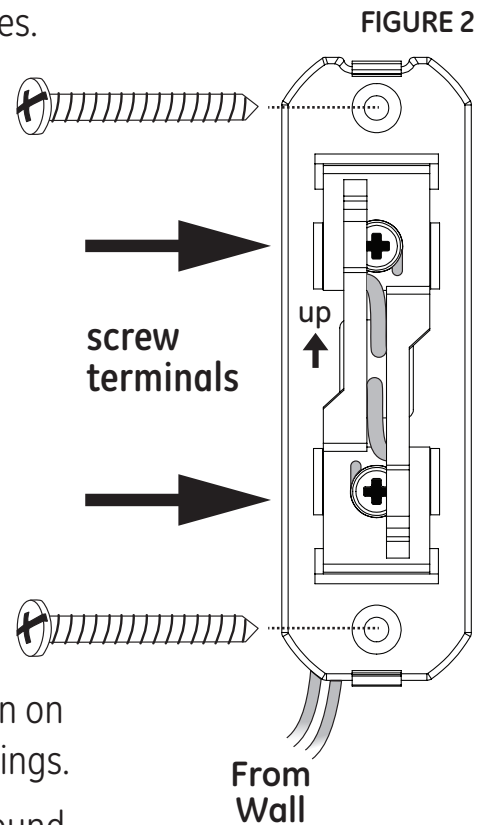

FIGURE 2
- 6) Attach one wire to each of the screw terminals on the back of the GE push button. (See figure 2)